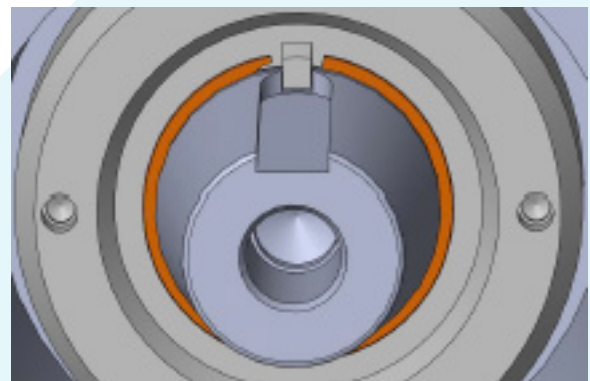

Figure 3. Retaining Ring in Shaft Groove
3. Continue applying pressure to keep the seal sleeve pressed against the shaft step. Align the gap in the retaining ring with the shaft slot, and place the retaining ring in the shaft groove (Figure 3).